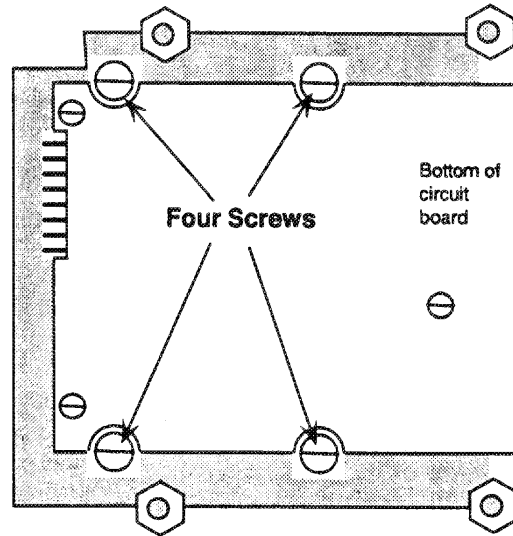

Figure 19 Carrier mechanism screw locations.
7. Rotate the drive such that the circuit board is facing up. As shown in Figure 19, use a small 1/8-inch slotted screwdriver to remove four gold-colored flat-head screws mounted beneath the circuit board.